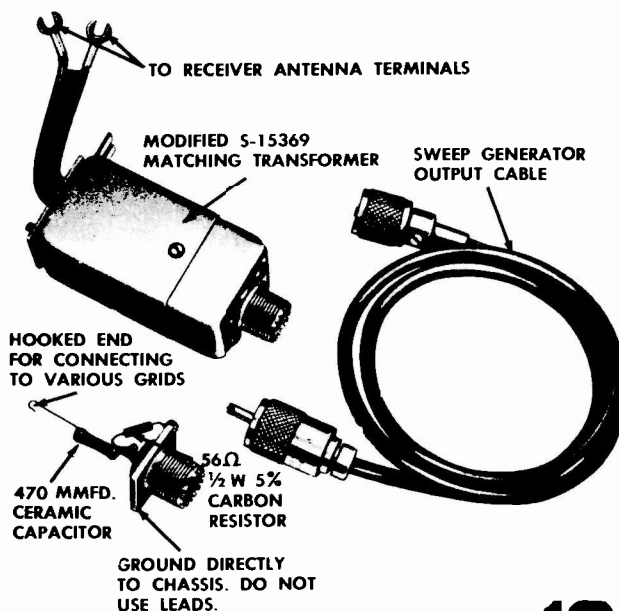

Fig. 5 IF - RF Alignment Fixtures.
When aligning the 40 Mc IF, it is of utmost importance to keep the sweep generator connections as short as possible. (See Fig. 5). Clip the negative lead of a 4.5V battery to test point "A" and the positive lead to chassis. Connect the oscilloscope to the grid (Pin 7) of the 12AT7 limiter-inverter through a 10K isolation resistor. During alignment keep the output from the sweep generator at a level which develops approximately 3V peak output at the detector as viewed on the calibrated oscilloscope.
1. Feed the output from the sweep generator through a connector, as shown in Fig. 5, into the converter grid (terminal "F"). This terminal is immediately adjacent to the 6CB6 converter tube.